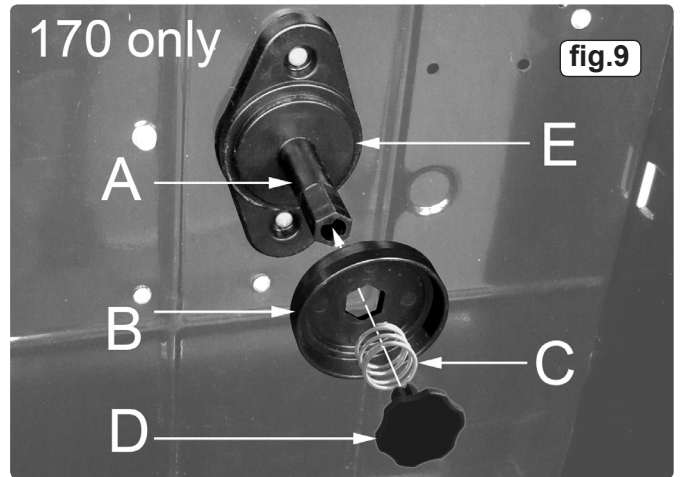

fig.9
**3.8.1** Remove the retaining knob (D) from the end of the spindle (A) by turning the knob 90° anticlockwise and pulling it outwards (see fig.9). Remove the spring (C) and the retaining disc (B) from the end of the spindle also. Slide the reel of wire over the spindle and hold it against the back plate so that the hole in the reel rests on the flange (E). Ensure that the wire is coming off the top of the reel in the direction of the wire drive unit as shown in fig.10.